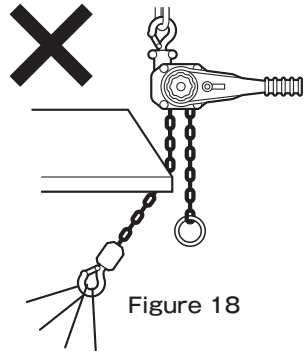
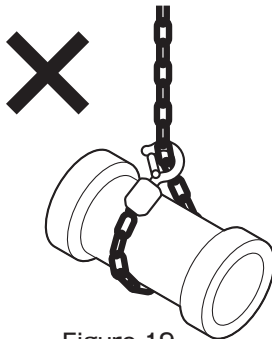

Figure 18
Figure 19
- (26) Never reverse a suspended load without sufficient expertise in doing so.
- (27) Do not suspend excessive loads.
- (28) When maintaining the load in a suspended condition for a short period of time, be sure to leave the switch pawls in the lifting position.
- (29) Never use the hoist or the hook to work as a fulcrum.
- (30) Do not use damaged or deformed top/bottom hooks.
- (31) Never use this equipment if the load chain is deformed or damaged.
- (32) Do not operate the equipment with the load chain lodged against a steel plate or other corners. (Figure 18)
- (33) Do not operate the load chain by any means other than human power (do not use any tools or objects on the controls).
- (34) Do not apply abrupt force to the load chain during idle operation.
- (35) Suspend slings properly onto the hook.
- (36) During lifting, temporarily pause winding once either the load chain or sling comes under tension.
- (37) Keep the lever hoist unit and load chain clean and free of sand and other debris.
- (38) Make sure the lifting height is sufficient for the intended work.
- (39) Make sure the load chain is sufficiently lubricated.
- (40) Do not modify this equipment in any way.
- (41) Do not use with the load chain wrapped around the load. (Figure 19)